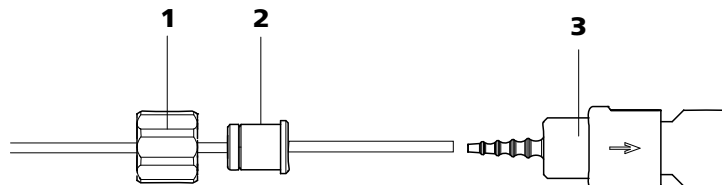

Figure 22 Install pump tubing connection with filter
- **Case A:** a 6.2744.180 pump tubing connection **with filter** (see Figure 22, page 42) or